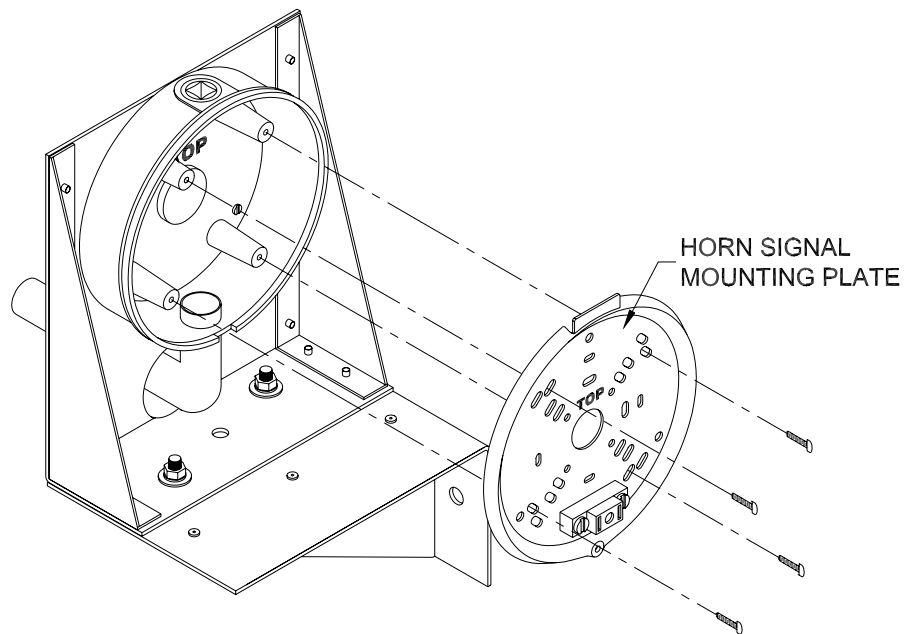

Figure 11 Horn Signal Mounting Plate Attachment
13. Align the horn signal mounting plate with the back box so that the word “TOP” on the horn signal mounting plate and the back box should be oriented in the same direction and the screw hole on the bottom edge of the horn signal mounting plate should be directly over the gap in the back box gasket as seen in figure 11.